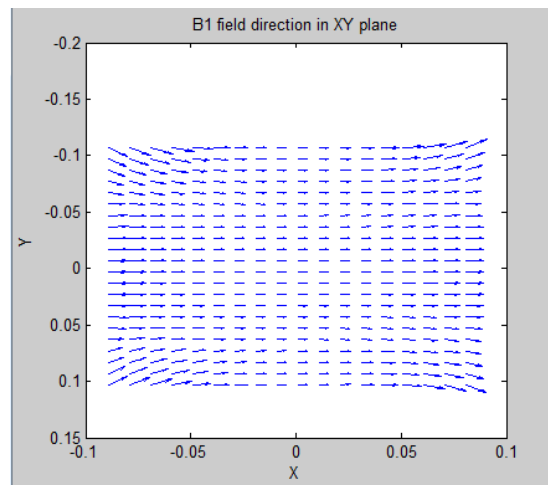

Figure 5.37: An Example of B1 Field on XY Plane.
- \wedge : Undock B1 field on active B1 slicing plane (Figure 5.37)